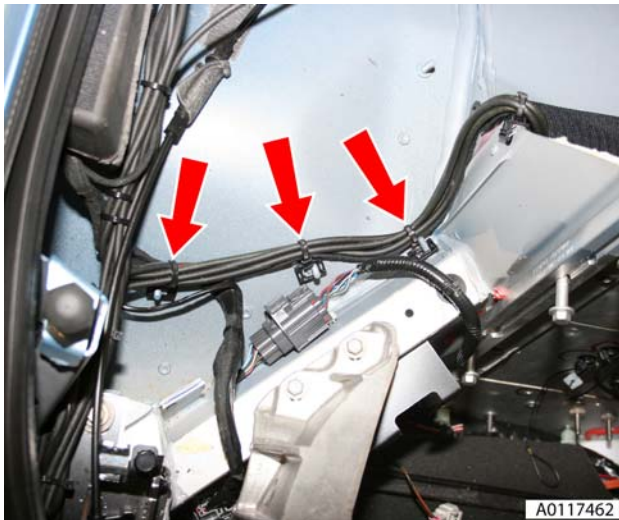

Figure 8
14. Remove harness/pipe retaining clips (x3) LH side (see Figure 8).